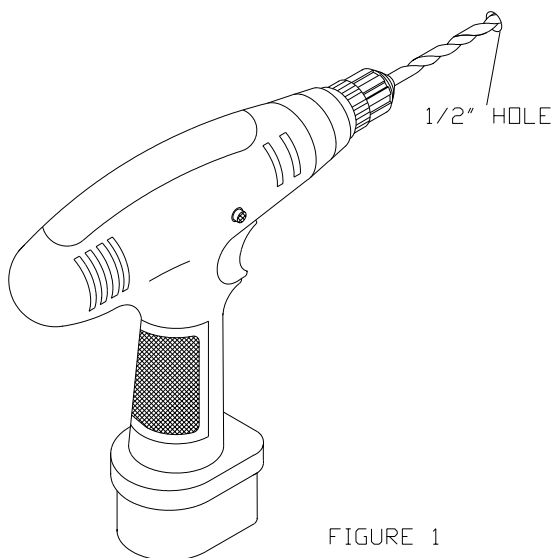

FIGURE 1
12. Drill $\frac{1}{2}$ " holes into the wall on the marked locations where the wall anchors are to be installed. (FIGURE 1)